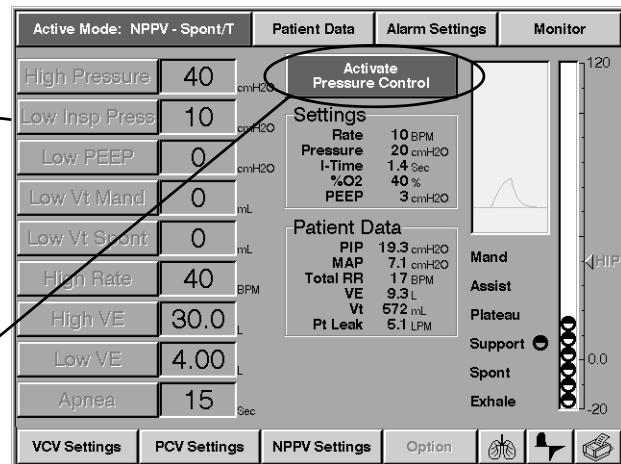

Figure 8-18: Setting Alarm Limits That Are Not Currently Active
- Select the REVIEW ALARMS button to display the alarm settings for PCV (Figure 8-18).
- Notice that all the alarm buttons (Figure 8-18) are grayed out, indicating that the alarm limits are not currently active. The ventilator displays the current value for that set of alarm limits. Push the button for the alarm limit you want to adjust.
**NOTE:** Any of the changes made in the screen shown in Figure 8-18, do not take effect until the operator switches to the new ventilation breath type (in this case Pressure Control).